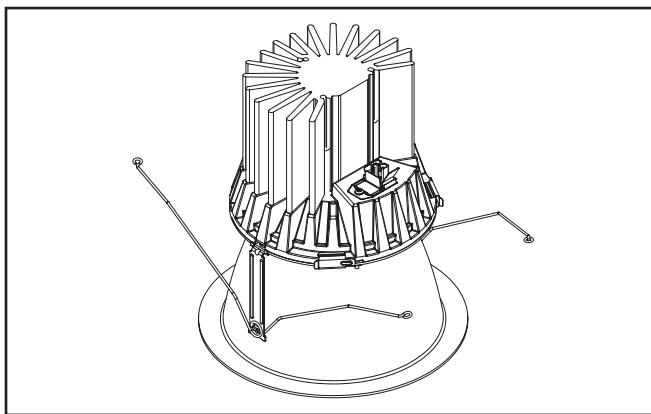

Figure 9
5. Plug in the luminaire quick disconnect on the module. (Figure 9)